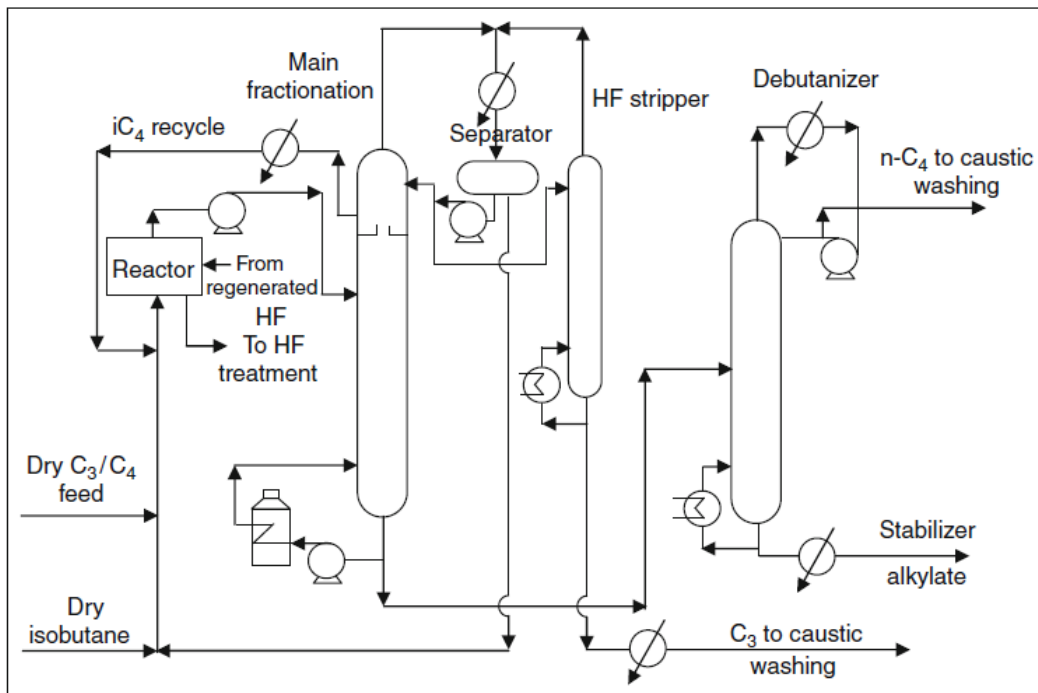

Figure 6. Simplified diagram of the Phillip's HF alkylation process
- ❖ The two processes are quite similar. The flow diagram of the Phillips process is shown in Figure 6.